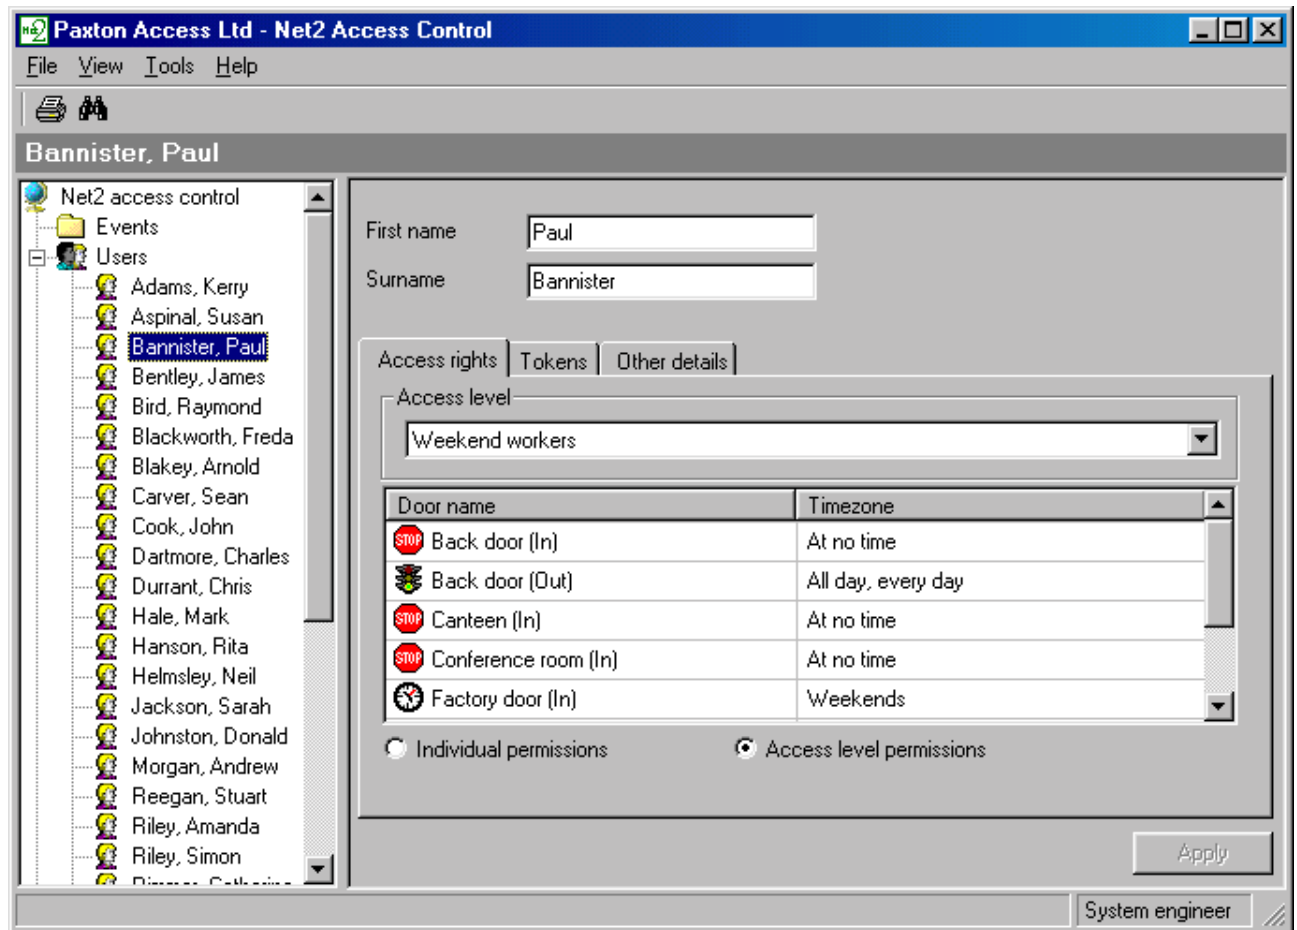

Figure 2.1
**Access levels or Individual permissions** are selected in the user record, see figure 2.1.